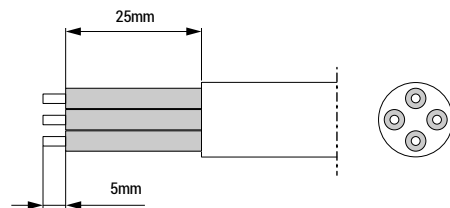

Figure 2A
- 3 Connect the module according to its type* with the cable supplied - see figures 2A and 2B.